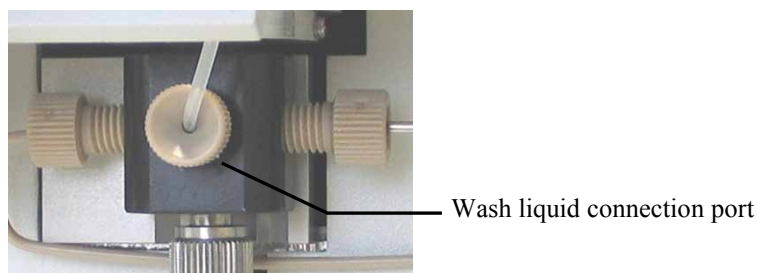

Fig. 17: Wash liquid line connected to the syringe valve
4. Connect the long tube from the Online Degas Wash kit to the syringe valve (→ Fig. 17, page 51).